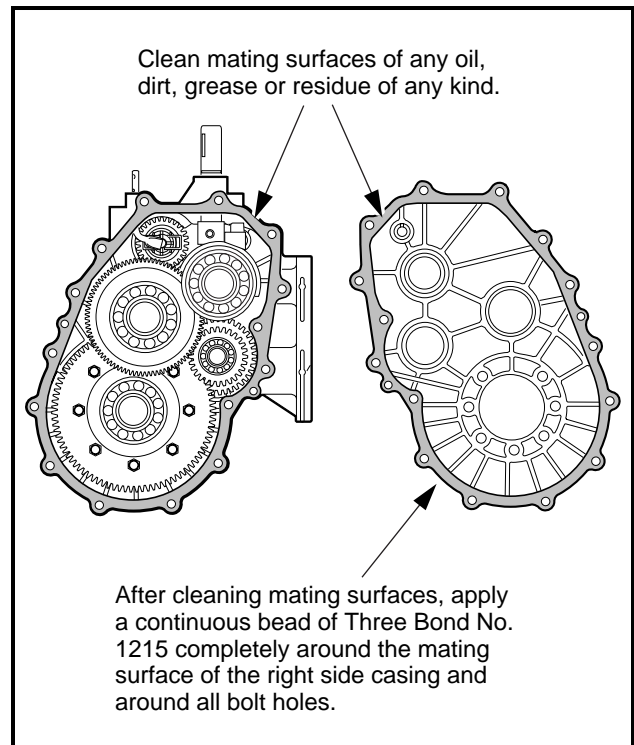

Figure 16-80 Prepare Mating Surfaces
9. Apply a continuous bead of Three Bond No. 1215 (Club Car Part No. 101928701) sealant to the mating surface, around the complete profile of the right (passenger side) case (**Figure 16-80, Page 16-33**). See following **CAUTION**.